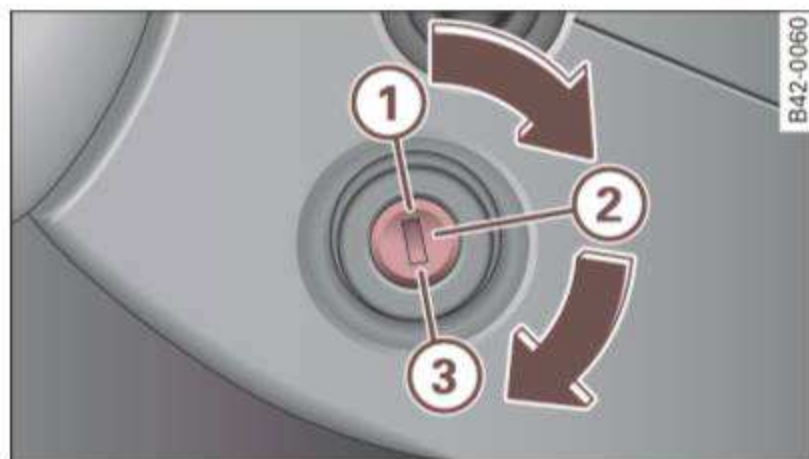

Fig. 66 Ignition lock positions
In position ⇒ fig. 66 ① both the ignition and engine are off, and the steering is locked.
- Turn the ignition key to position ③ ⇒ *page 81, fig. 66* - do not depress the gas pedal when starting the engine.
- Turn the ignition key to position ① ⇒ *page 81, fig. 66*.